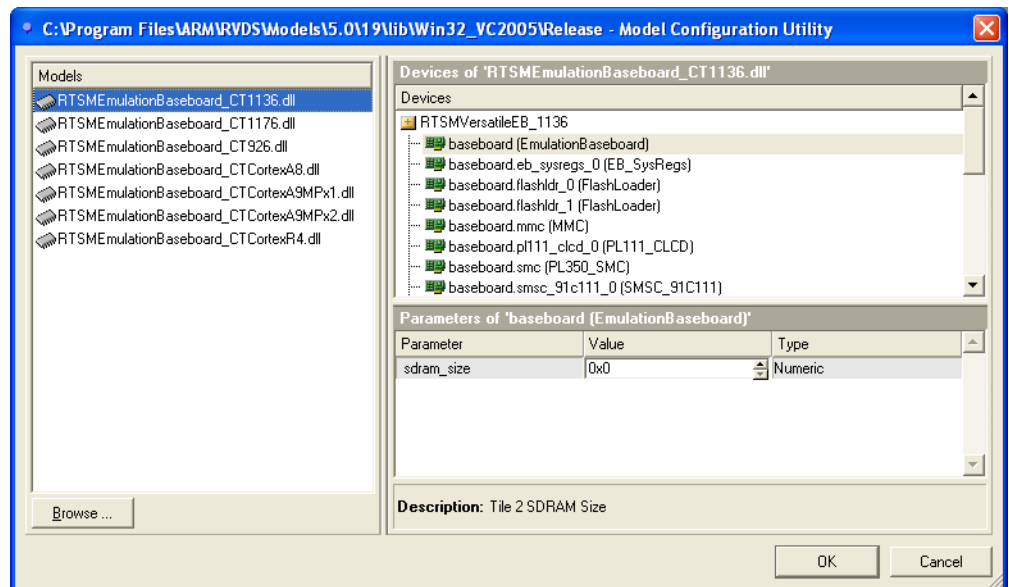

Figure 2-4 Model Configuration Utility dialog box (RTSM)
- e. Select a model from the Models list. Figure 2-4 shows an example: